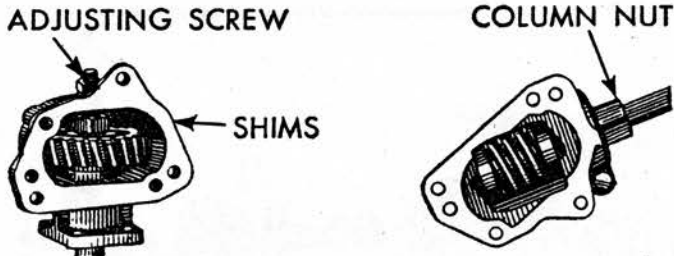

Fig. 55 Steering gear adjustments. Series A, B, D, G, H with wide spread front wheels
**ADJUSTMENTS**—Fig. 55. To take up lost motion in the steering gear, loosen the lock nut on the adjusting screw in the gear housing and tighten the screw. Do not adjust too tight, and be sure to tighten the lock nut.